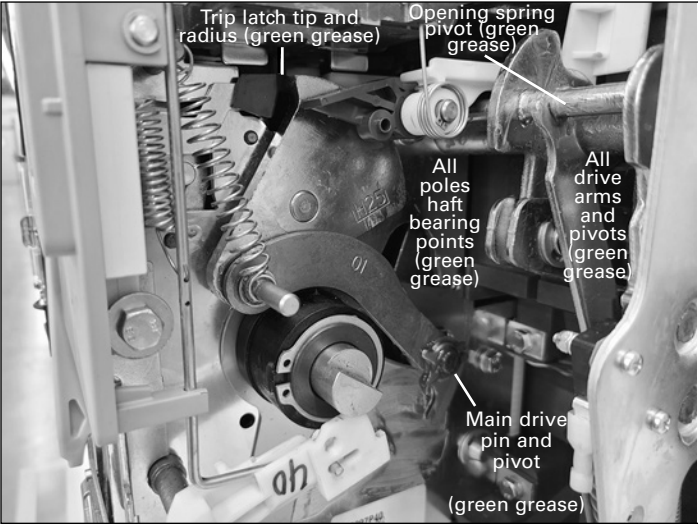
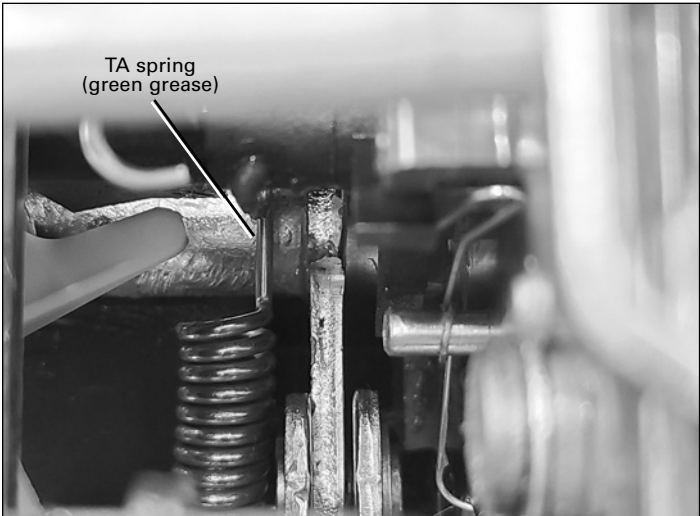

Figure 87. Breaker mechanism lubrication
Figure 92. Pole shaft and TA spring lubrication
3. Inspect all sliding or rolling parts for cleanliness and adequate lubrication. Refer to **Table 19** and **Figure 87—Figure 92**.